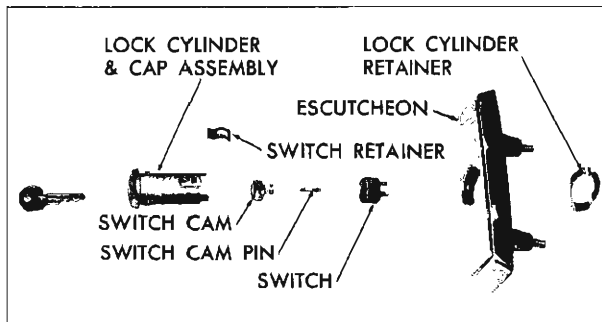

Fig. 89—Tail Gate Electric Lock Cylinder, Switch and Escutcheon Assembly
2. Disengage lock cylinder and switch retainer (fig. 89) and remove lock cylinder and switch assembly from escutcheon.
3. Using a pointed tool inserted through hole in lock cylinder case, depress tab of switch retainer and remove retainer and switch (fig. 89).
4. Using suitable pliers, grasp pin of switch cam firmly and pull switch cam straight out from lock cylinder (fig. 89).